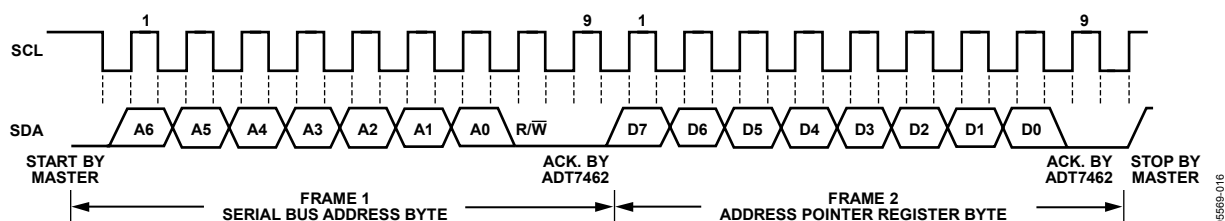

Figure 26. Writing to the Address Pointer Register Only
- If the ADT7462's address pointer register value is unknown or not the desired value, it must be set to the correct value before data can be read from the desired data register. This is done by performing a write to the ADT7462 as before, but only the data byte containing the register address is sent because no data is written to the register (see Figure 26).